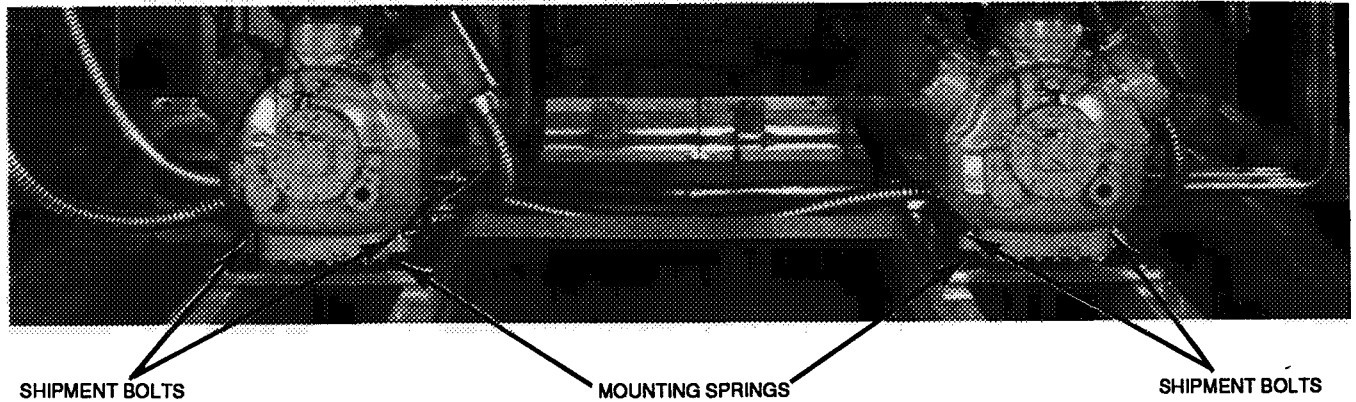

Fig. 3 – Outer View, Compressor Mounting
Step 2 – Check Compressor Mounting – All compressors are mounted on pans and are held down by 4 bolts during shipment. After unit is installed, loosen each of these bolts until the snubber washer can be moved with finger pressure. See Fig. 3.